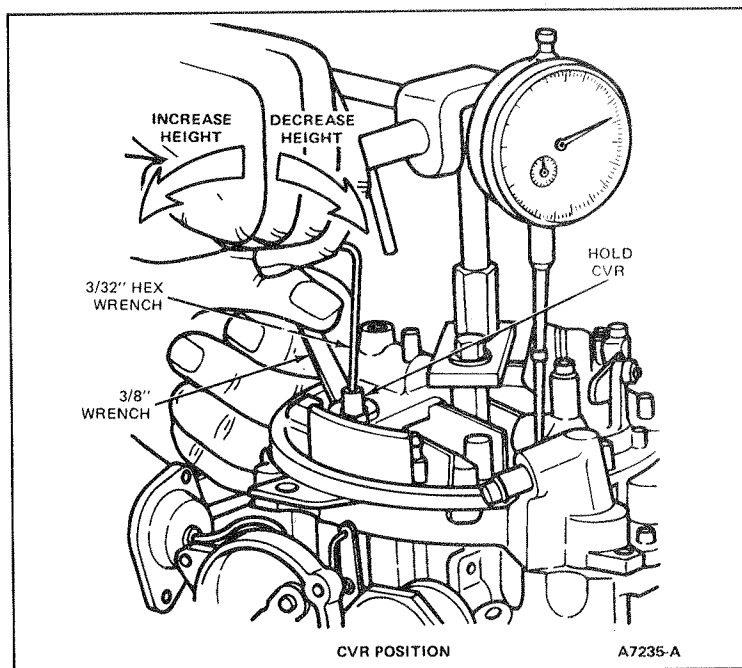

Figure 9 Control Vacuum Rod (CVR) Adjustment
3. Adjust by holding CVR with 3/8 inch wrench, and turning adjustment with 3/32 inch hex wrench CW to decrease or CCW to increase height, (Figure 9).